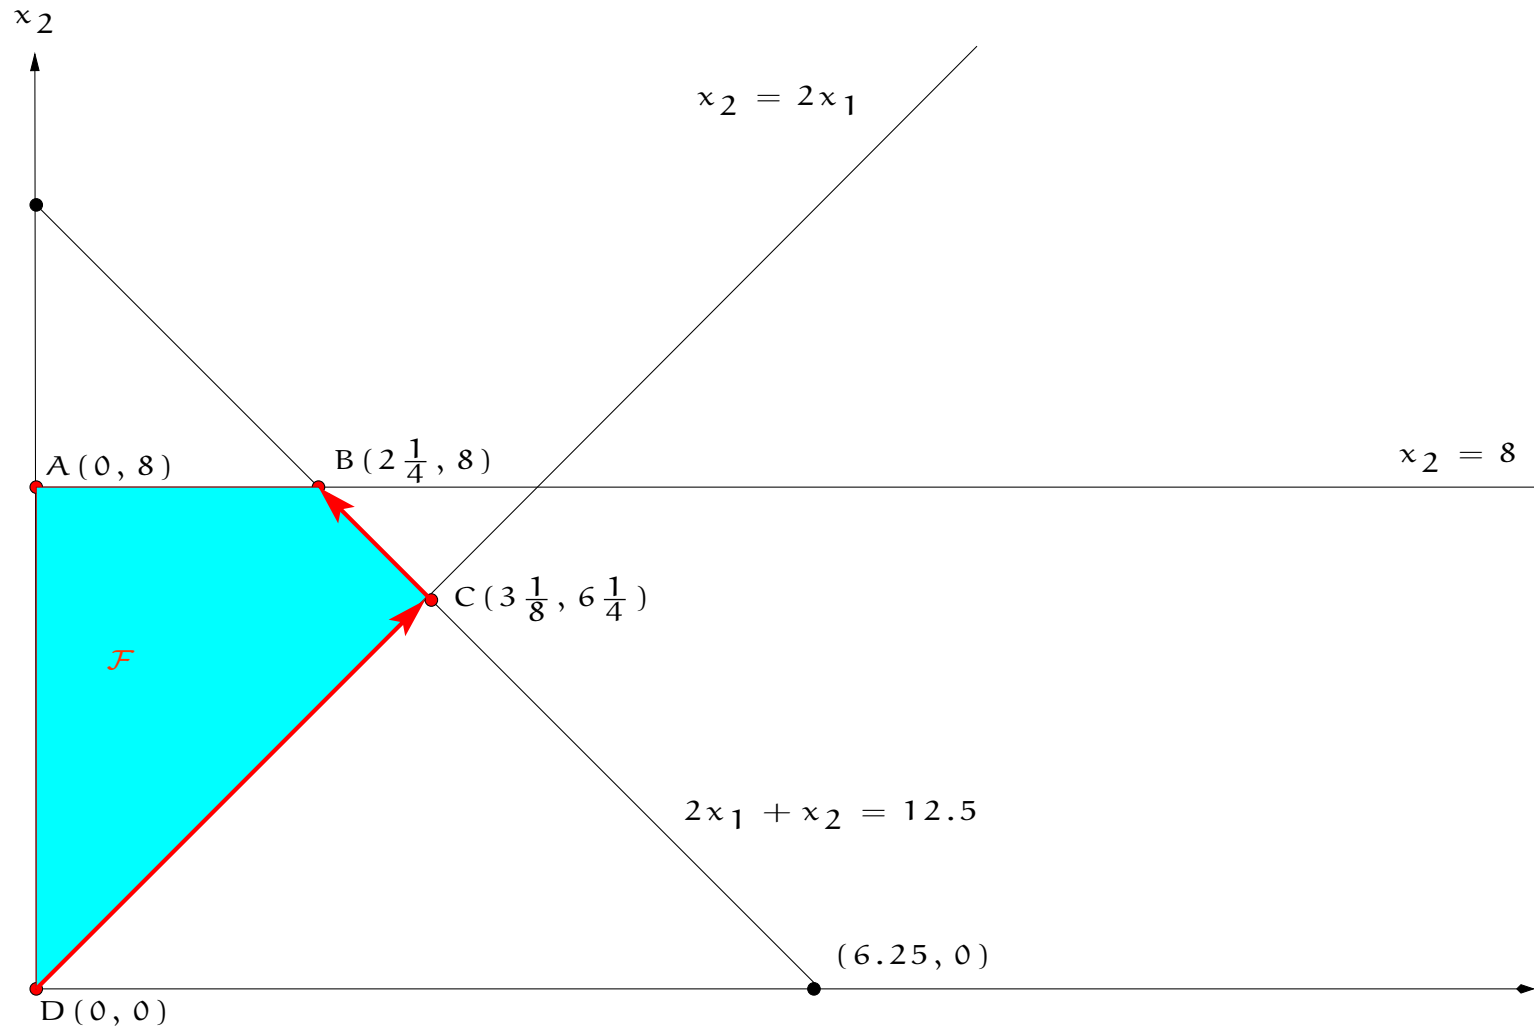

Figure 4: A feasible set with four corner pts.
- The feasible region is shaded in Figure 4, with the four corner points A,B,C & D.